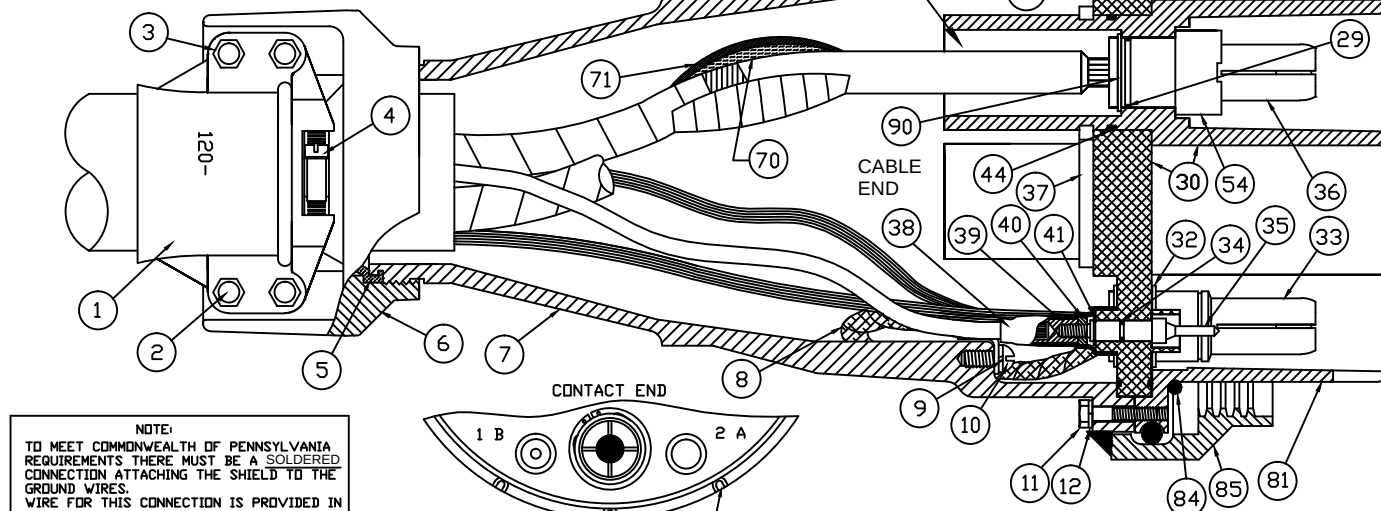

FIGURE 1
- Solder attach the phase conductors into the phase contacts (36) using (preferably) 50-50 solder.
- Insert the cable ground wires and ground strap (8) (provided in the coupler kit) into the ground contact (33) and solder attach it with the strap positioned so as to be at the bottom of the coupler.
- Slide the heat shrink tube (38) back over the ground check conductor. Strip 1/2" (1.3cm) of insulation from the ground check conductor, and solder attach it to the solder pot (39).
- Insert the plated steel retaining rings (90) into the ground and phase contacts in the groove closest to the cable end of the contact. Insert the o-rings (29) into the adjacent wider groove.
- Slide the insulator over the phase contacts and thread the contact nuts (54) onto the contacts. Insert the ground contact into the insulator plate and apply the stainless steel retaining ring (32).
- While holding the solder pot (39) in place, turn the ground check contact (35) from the front side threading it into the solder pot until the jam nut (40) is finger tight against the solder pot. Then tighten the nut (40) with a wrench while holding the solder pot with pliers. Slide the shrink tube over the ground check extension on the insulator plate. While shrinking it into place, with a heat gun or small flame, put slight downward pressure on the shrink tube to keep it seated on the insulator plate. The shrink tube contains a sealant to prevent moisture contamination of the joint.
- Slide the end bell (7) forward far enough to attach the ground strap to the threaded hole inside the end bell and secure the strap using the plated brass screw (10) and lock washer (9) provided. Then, while feeding in the slack ground strap so that it lies against the inner surface of the bell, seat the end bell against the insulator, aligning the roll pin with the slot in the insulator assembly, as shown in figure 1. Align the roll pin in the plug body assembly with the same slot in the insulator and attach the plug body assembly to the end bell using the 1-1/4" bolts (11) and lock washers (12) provided.
- Slide the cable seal (5) into position so that the lip fits into slot on the end bell. Thread the end casting (6) onto the end bell and hand-tighten. Loosely attach the cable clamps (1). Turn the hose clamp (4) so that the screw is accessible in the window on the cable clamp, and tighten the hose clamp on the cable seal to form a tight seal on the cable. Tighten the clamp bolts (2) and nuts (3) on the cable clamps so that the cable is centered in the bell and properly clamped. THE CLAMPS DO NOT HAVE TO BE TIGHTENED ALL THE WAY TO THE END CASTING!